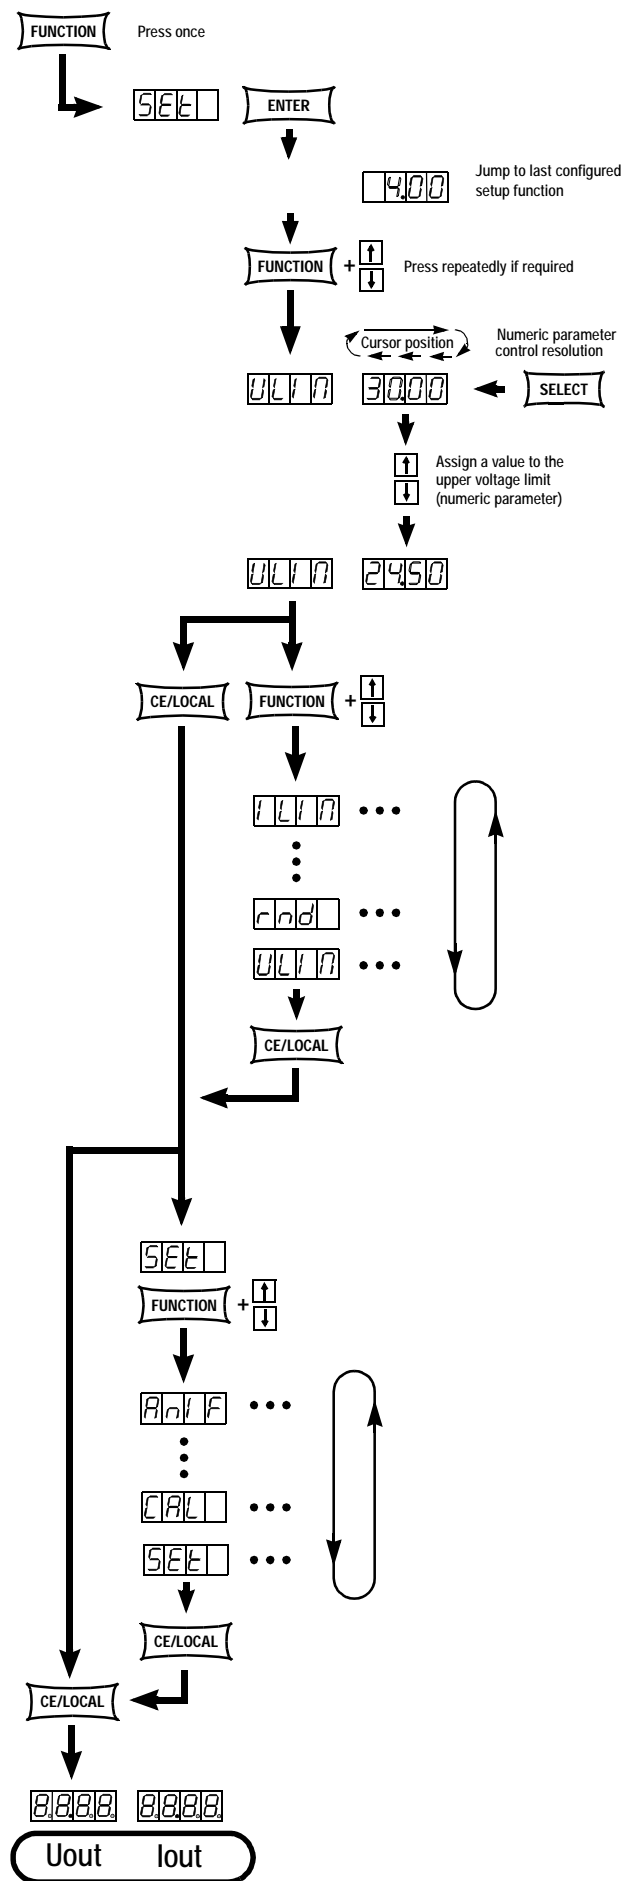

Figure 4.2.1.1 Path to Ulim Setting
- ☞ If the "SEt" function group does not appear immediately at the left-hand display, repeatedly press the <FUNCTION> key until "SEt" appears at the left-hand display (figure 4.2.1).
- ☞ The procedure for adjusting **Ilim** is identical to the procedure used for adjusting **Ulim** (see also 4.2.1.1, figure 4.2.1.1).